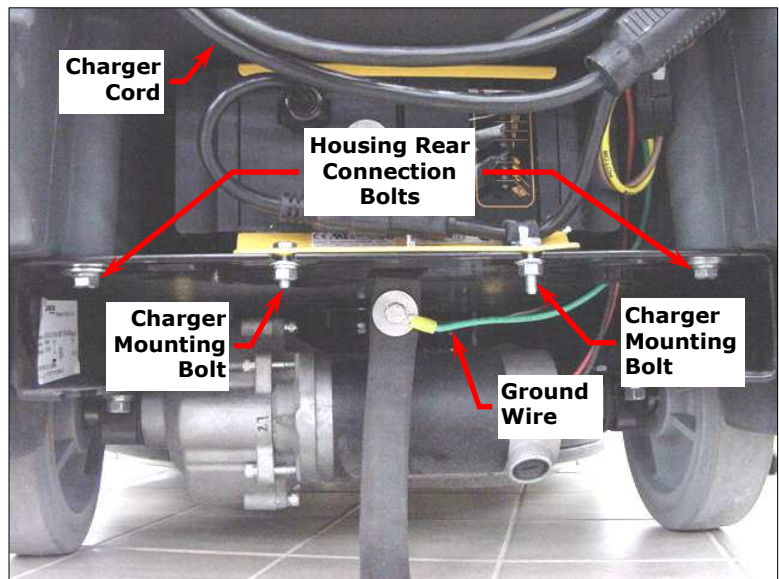

Figure 14 – Charger Connections/Housing Rear Connection Bolts
6. See Figure 14. Unwrap the charger cord.